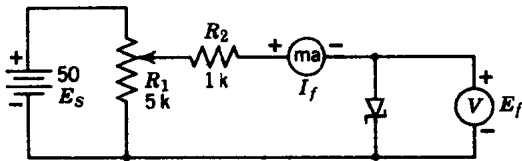

Fig. 1. Forward bias characteristics circuit.
2. Construct the circuit in Fig. 1. *Caution:* a forward biased diode is a low resistance device; hence a large current (majority or forward) will flow. To collect volt-ampere data for a forward biased diode: